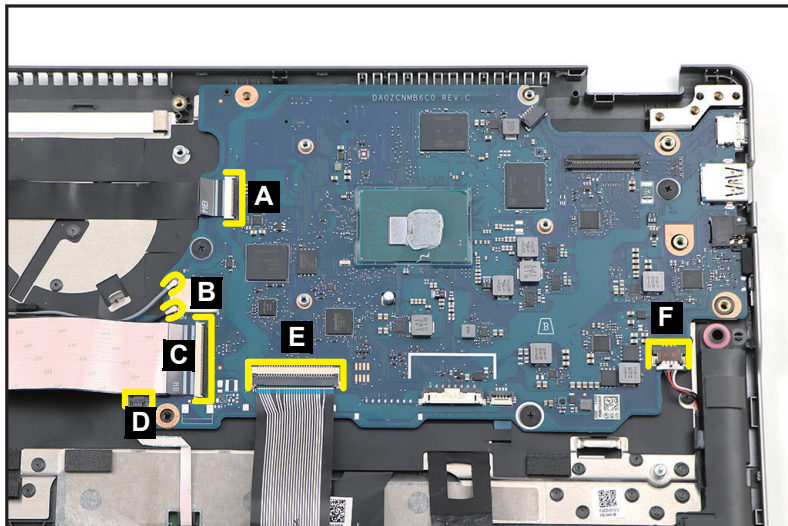

Figure 1-25. Mainboard Removal
1. Disconnect the USB board FFC (low speed) from the mainboard connector (A) (Figure 1-25).
2. Disconnect the WLAN antennas cables from the WLAN module connectors (B) (Figure 1-25).
3. Disconnect the USB board FFC (high speed) from the mainboard connector (C) (Figure 1-25).
4. Disconnect the touchpad module FFC from the mainboard connector (D) (Figure 1-25).
5. Disconnect the keyboard FPC from the mainboard connector (E) (Figure 1-25).
6. Disconnect the speaker cable from the mainboard connector (F) (Figure 1-25).